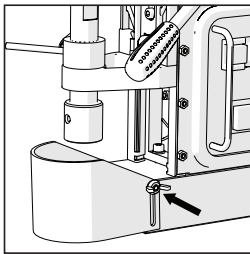

FIG. 2
- Attach the Safety Guard and secure in place using the supplied fixing screws. **(Fig. 2)**